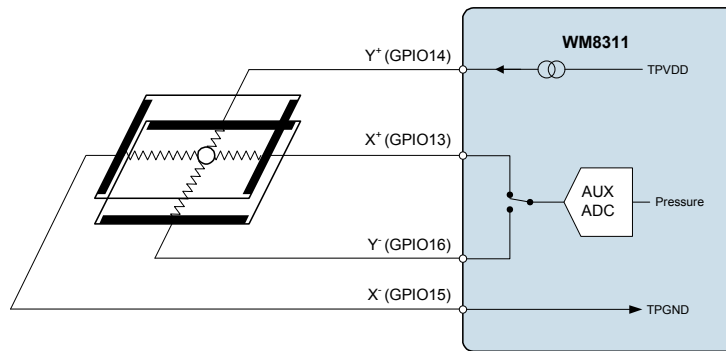

Figure 31 Z-axis (Pressure) Measurement on 4-wire Touch Panel
The configuration is illustrated in Figure 31. In this example, a constant current flows from the Top (Y⁺) connection to the Left (X) connection. The Right (X⁺) and Bottom (Y) points are measured in turn, and the difference, $V_X - V_Y$ is equal to $I_P \times R_C$, where I_P is the current applied and R_C is the resistance between the plates. The smaller the measured resistance, the greater the pressure being applied.